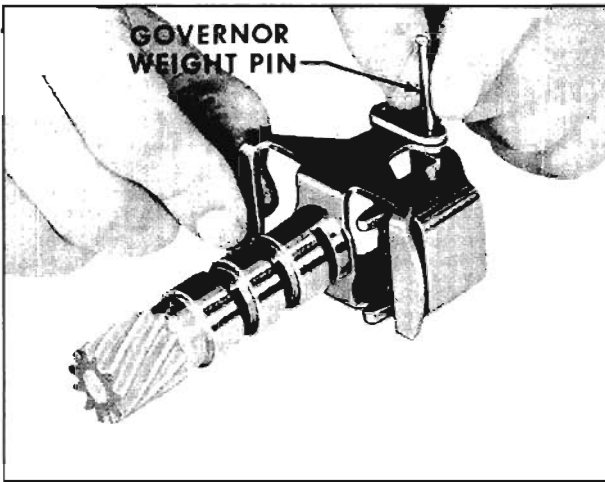

Fig. 6-381 Installing Governor Weight Pins
6. Install governor weight pins. (Fig. 6-381)